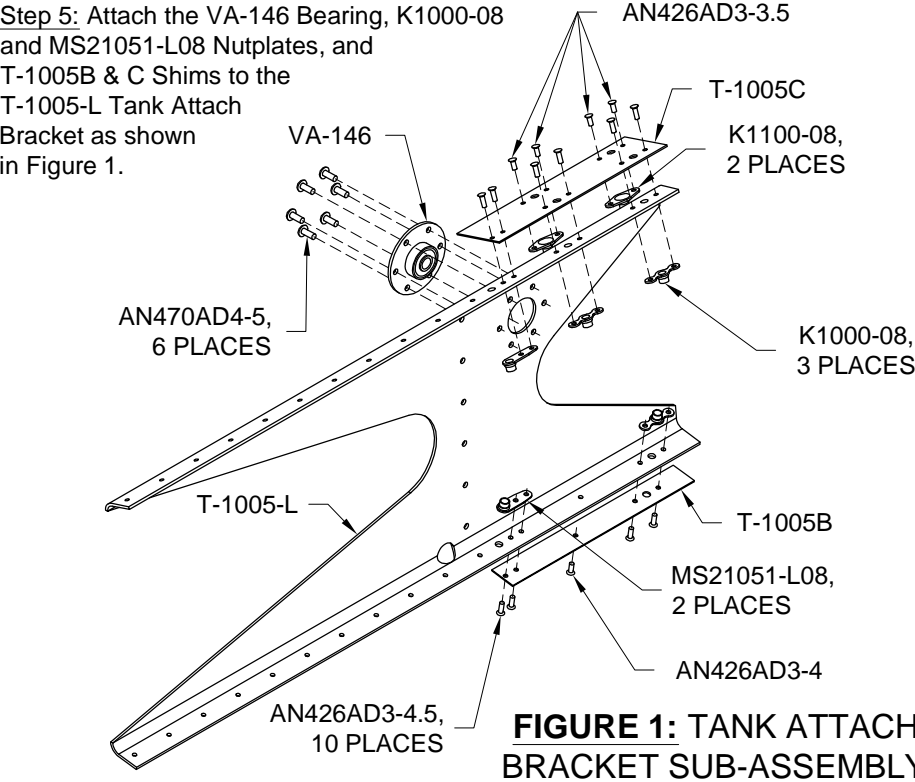

FIGURE 1: TANK ATTACH BRACKET SUB-ASSEMBLY
Step 3: Study Figure 1 until there is no question as to the position and/or orientation of each part or hardware item.
Step 4: Dimple the two #19 holes in the T-1005C Shim which will have K1100-08 Nutplates attached. Dimple the K1100-08 Nutplates and the corresponding nutplate attach rivet holes in the shim. Rivet the K1100-08 Nutplates to the shim as shown in Figure 1.
Step 5: Attach the VA-146 Bearing, K1000-08 and MS21051-L08 Nutplates, and T-1005B & C Shims to the T-1005-L Tank Attach Bracket as shown in Figure 1.